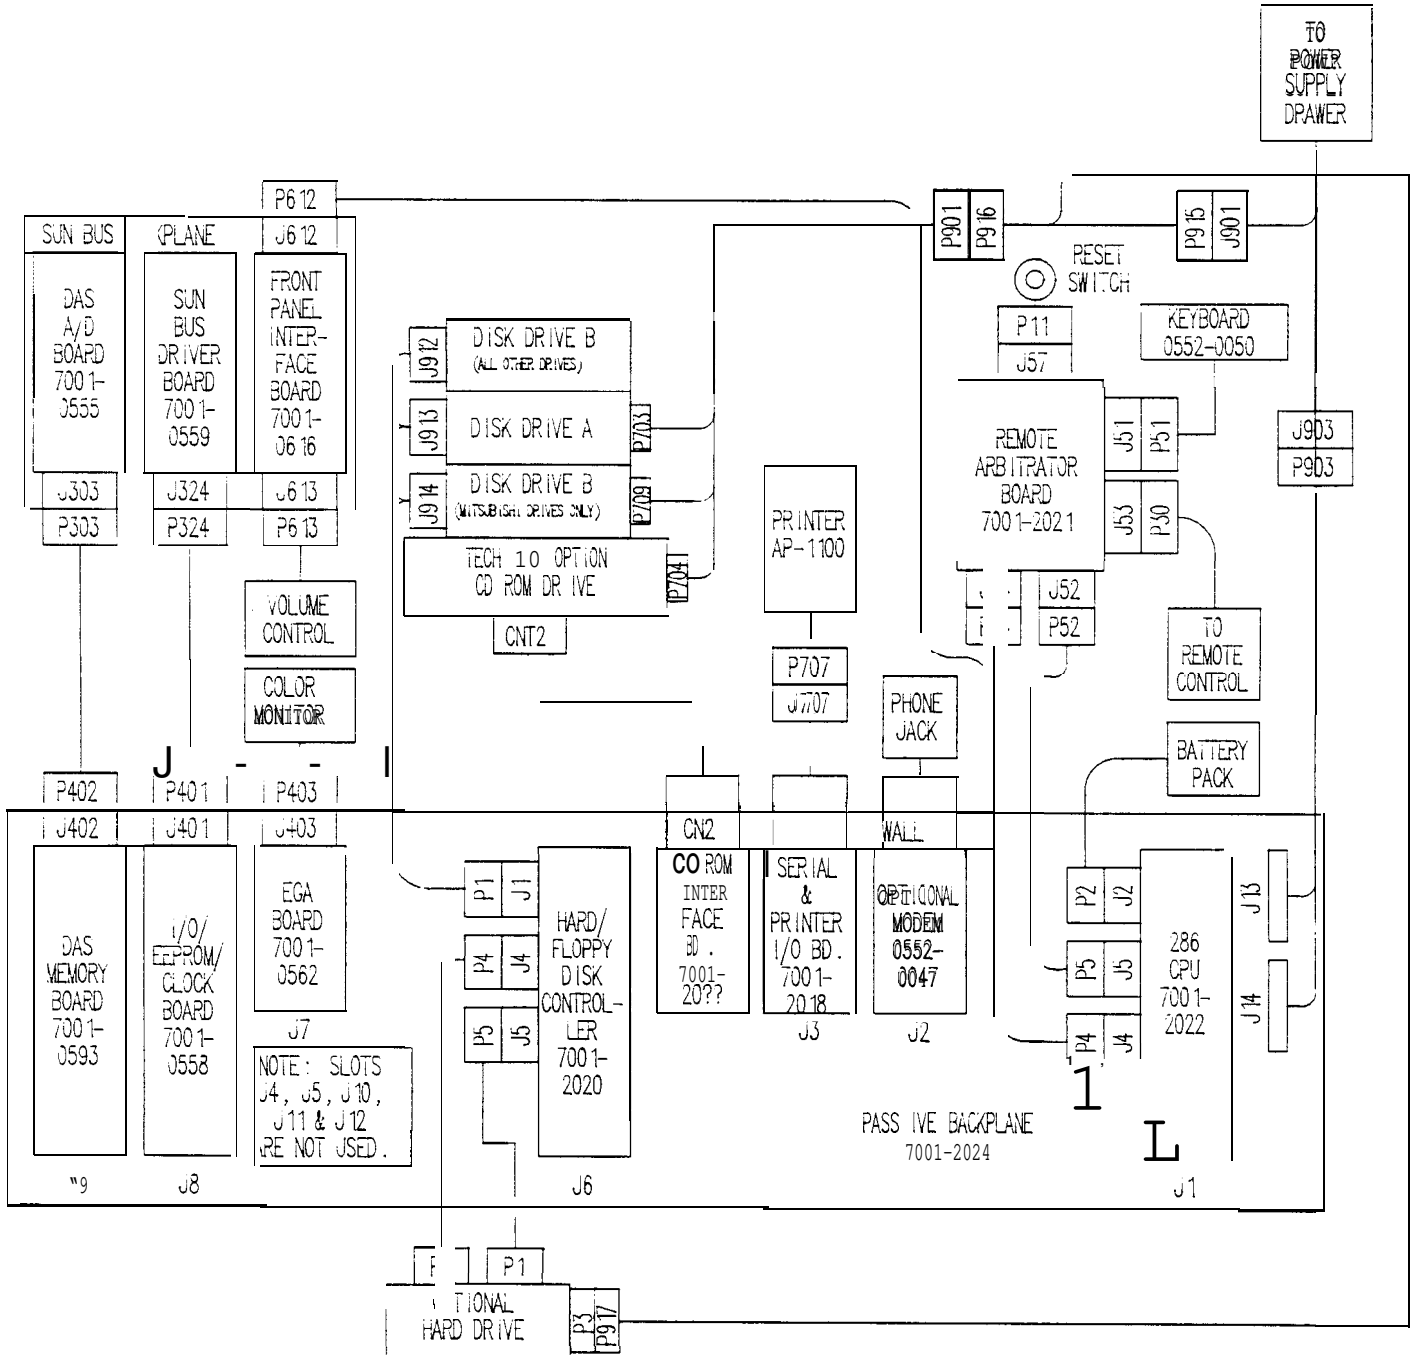

Figure 8. MCA286 Interconnection Diagram
69. **Re-check** all connections, to make sure that EVERYTHING has been connected properly per Figure 8 MCA 286 Interconnection Diagram.